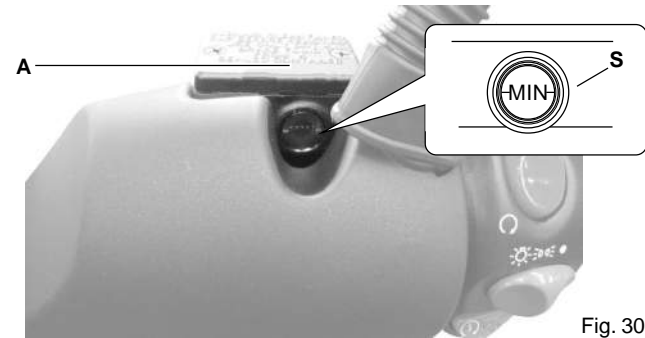
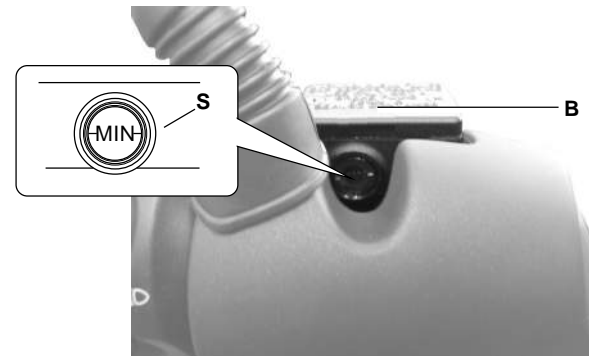

Fig. 30
Fig. 31
- The visual check should be made through the sight glass (S - Fig. 30-31) of the tanks: front brake (A - Fig. 30) and rear brake (B - Fig. 31), when the vehicle is on level ground and perfectly upright.